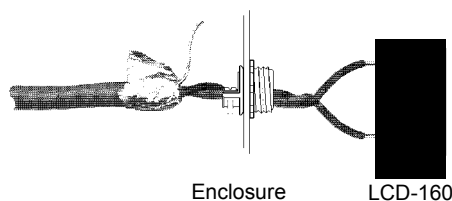

Figure 6.2 Terminating the Shield (Not in Conduit)
- RDP bus & shielding if necessary. (Figures 6.2 & 6.3)
- When the RDP shield is not in conduit: Terminate the shield at the outside of the panel backbox (ground). Do not allow the shield to enter or even touch a cabinet that houses any remote RDP device. Between RDP devices, wire-nut multiple shields together outside of the respective enclosures (see Figure 6.2).